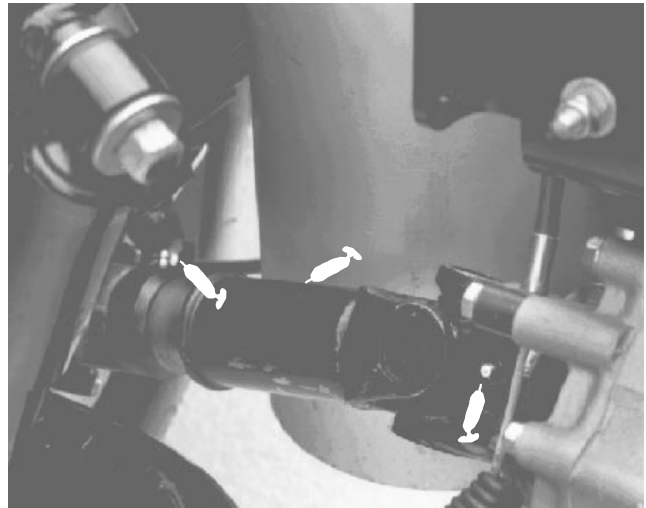
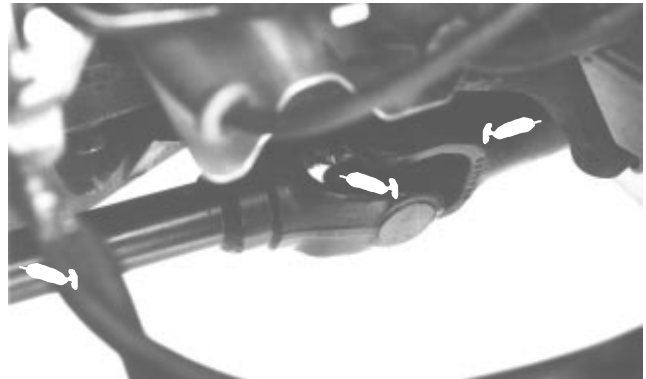
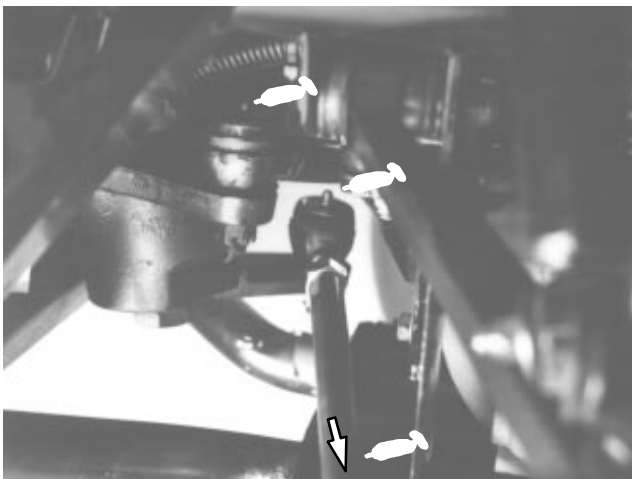
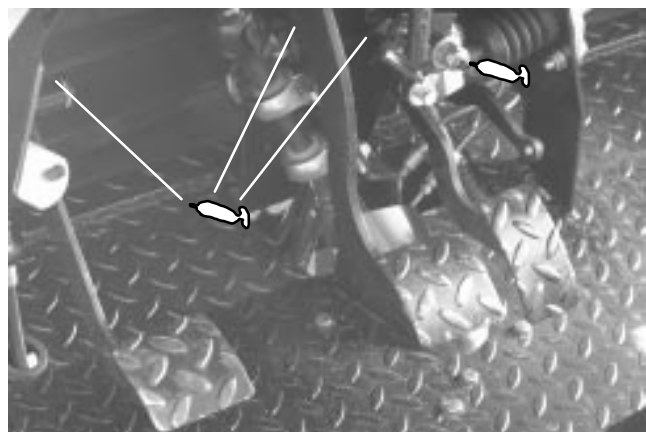

Figure 29
Figure 30
Figure 28
Figure 31
(Fig. 28–34)
The grease fitting locations and quantities are: Tie rod ends (4) (Fig. 28), Front ball joints (4) (Fig. 28), Rear drive shafts (18) (Fig. 29), Mid drive shaft – 4 wd only (3) (Fig. 30) Pedal Pivots (4) (Fig. 31); Steering shaft (1) (Fig. 32), Front pivot bushings (2) (Fig. 33) and Governor Lever (1) (Fig. 34).